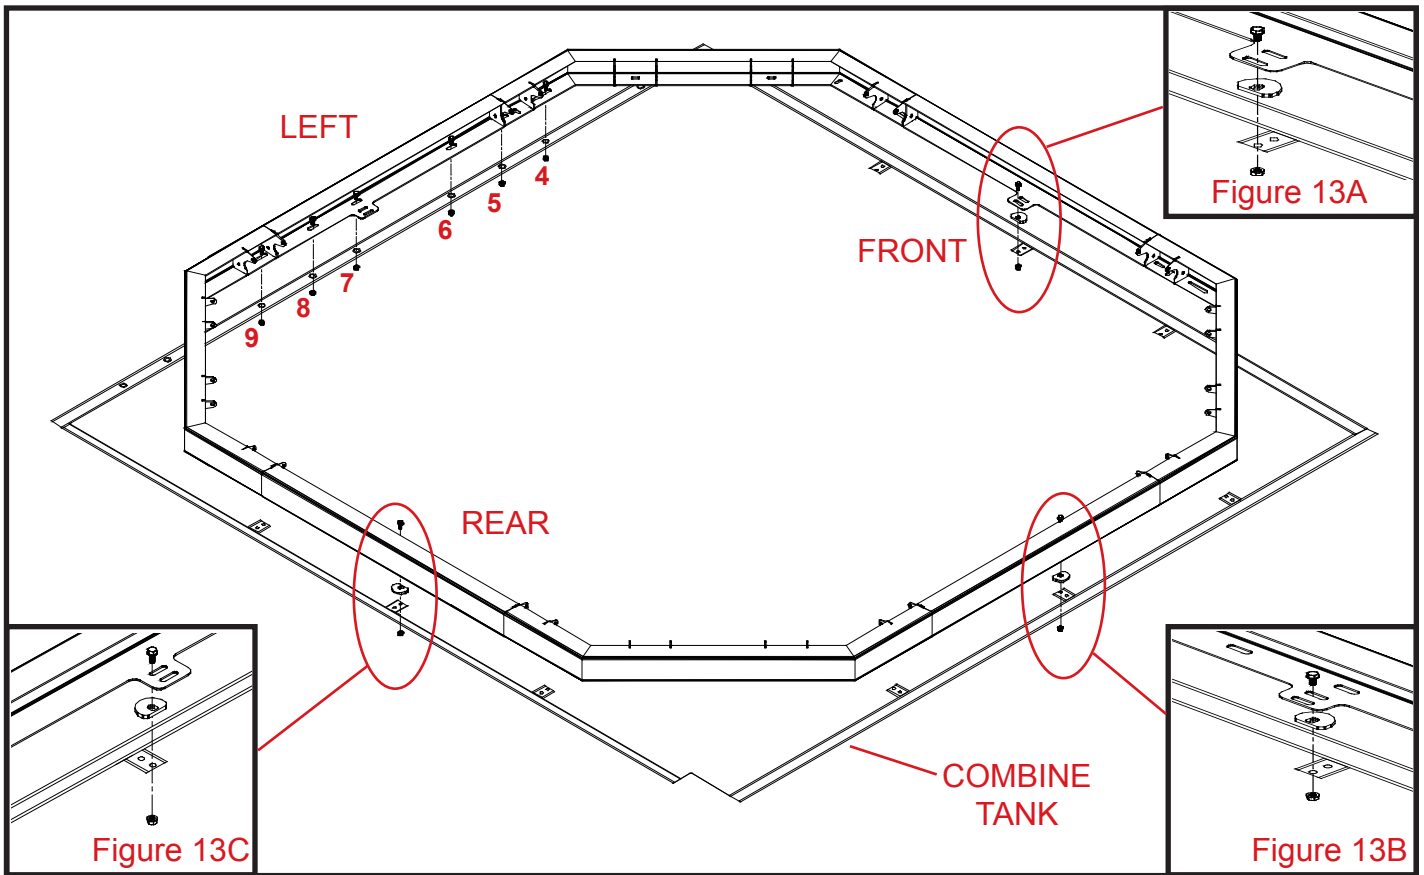

Figure 13
Remove all of the Deere factory installed vertical tip-up boards from the top of the S550 combine. Then on the left side of the combine tank you will notice (11) bolt heads. Using a ratchet with 15mm socket and 15mm wrench, remove and save bolts 4-9 as shown in figure13. The bolts removed will be used later to fasten the Demco bin extension to the combine tank.
Using the top holes of the existing front, rear, and right side tank brackets. Slide the provided frame spacers between the bin extension frame and the existing tank bracket. Bolt through the frame, spacer, and tank bracket with 5/16" x 1" serrated flange bolt and 5/16" serrated flange nut. We recommend that the tasks explained in this step be preformed where areas are circled in Figure 13. See figures 13A, 13B, and 13C for exact details.